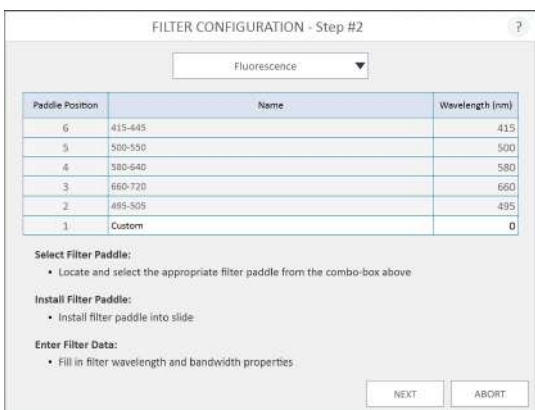

Figure 87. Filter configuration procedure (part 1).
6. Several Filter Configuration options exist when you are configuring for fluorescence (Figures 87–92).